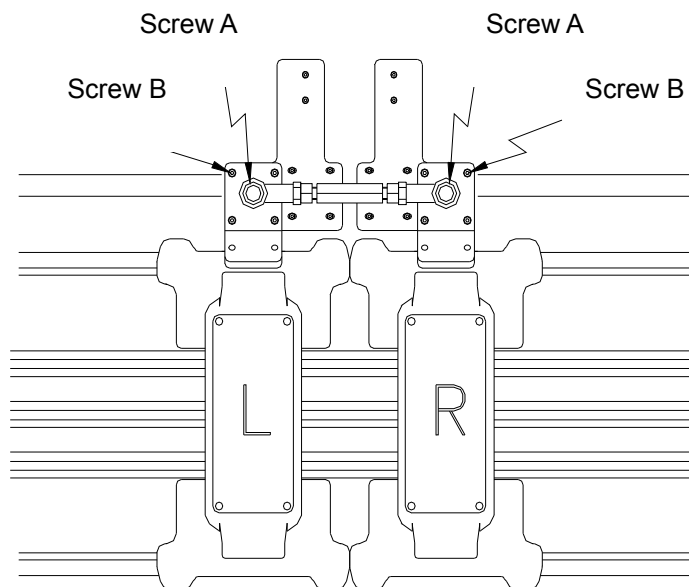

Fig 7.7.1 Combination & separation carriage
- b. Fig.7.7.1 is a top overview of carriages.